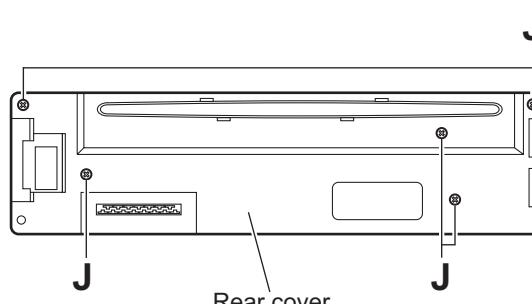

Fig.8
(See Figs.8 to 10)
- (1) Remove the five screws **J** attaching the rear cover on the back side of the front panel assembly. (See Fig.8.)